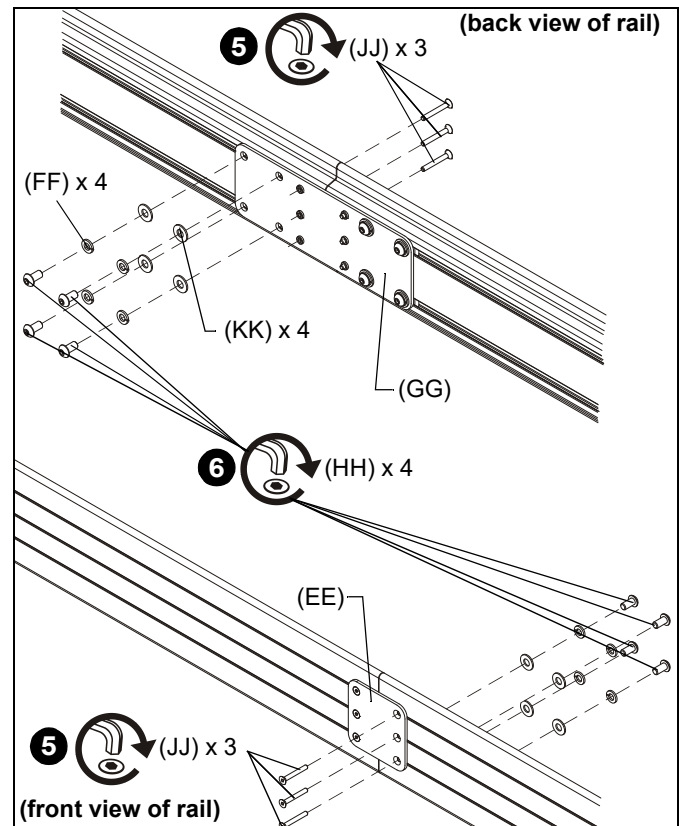

Figure 19
5. Secure connect bracket (EE) to front of second section of mounting rail (Q) using three 10-24 x 1-1/2" flat head cap screws (JJ) fastened through one side of connect bracket, mounting rail, tie bars (NN) and into connector plate (GG). (See Figure 19)
6. Additionally fasten connector plate (GG) using four 5/16 x 5/8" button head cap screws (HH), four 5/16" split washers (FF), and four friction washers (KK). (See Figure 19)